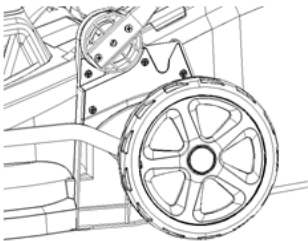
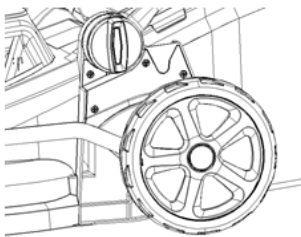

Fig.2A
Fig.2B
- 1) Fix the lower handle in the machine body Fig. 2A,/Fig. 2B.